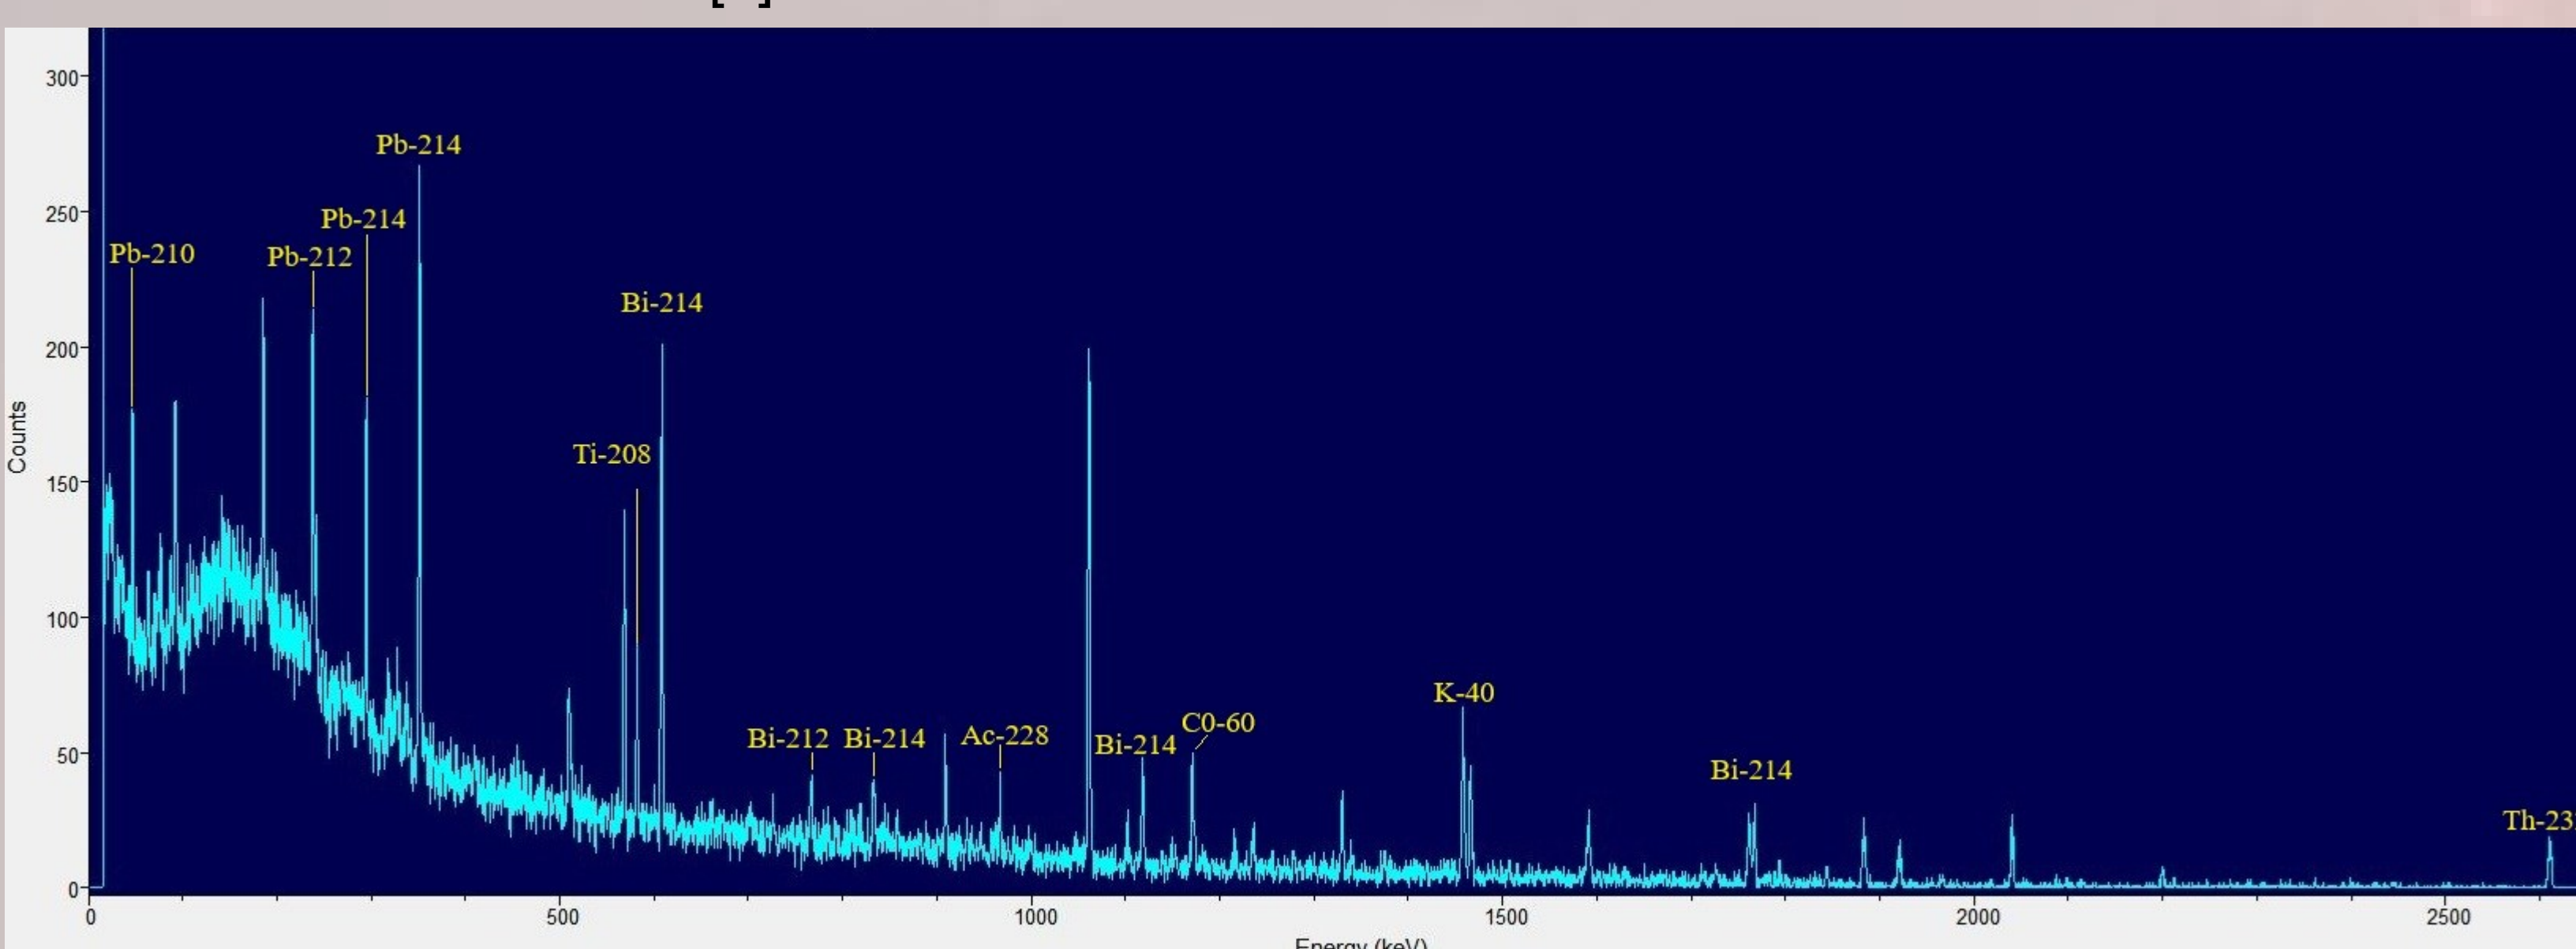

Figure 2: PeakEasy Spectra of Zurich SS Power [4]
- The concentration levels of uranium (U), thorium (Th), and potassium (K) are using  $C = \frac{N_{peak}}{\epsilon_{peak} M_{sample} P_{\gamma} LT}$ , where  $N_{peak}$  is the background-adjusted net peak area (obtained from PeakEasy),  $\epsilon_{peak}$  is the full energy peak efficiency,  $M_{sample}$  is the mass of the sample in grams,  $P_{\gamma}$  is the emission probability, and  $LT$  is the live-time of the sample run in minutes. [3]
- This Spectra in figure 2 was obtained from testing a 909.9g sample of Zurich stainless steel (SS) Powder. See results in Table 1. [3]
- In Figure 2, each peak represents the collection of energies from a given de-excitation of an isotope. A higher peak indicates a greater amount of gamma rays collected at that energy (from that isotope's decay). [4]